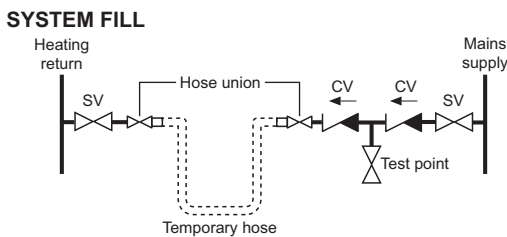

Fig. 11 System fill
- Filling the system must comply with the method shown in figure 11.